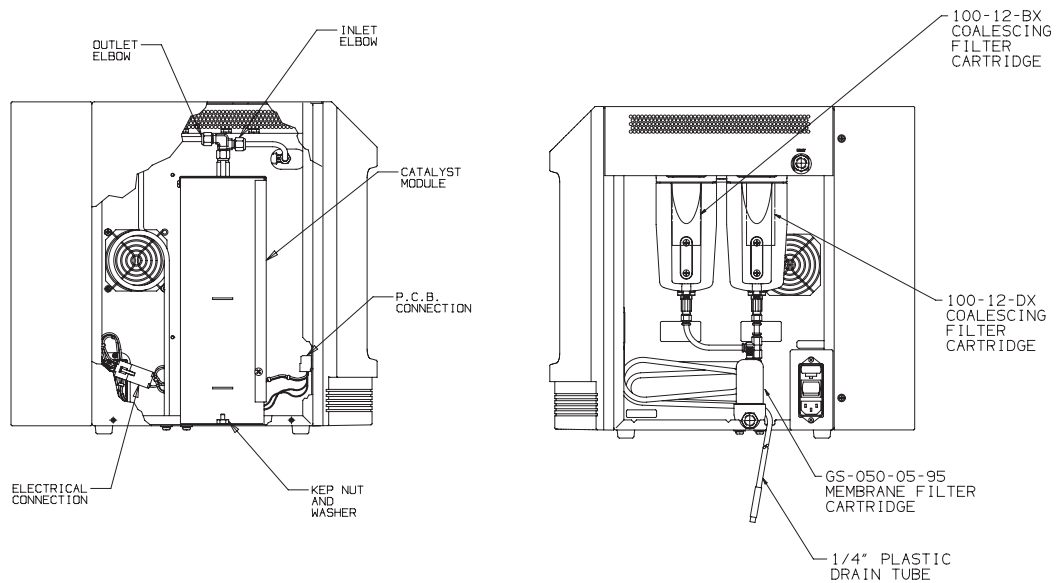

Figure 6 - Maintenance Items
The primary maintenance tasks required by the Parker Balston TOC Gas Generator are changing the prefilter cartridges (annually), replacing the final membrane filter cartridge (annually), and replacing the catalyst module (3 years or when the “Check System” LED starts blinking). A summary of the replacement part numbers and recommended service frequency is shown at the end of this Maintenance section. See Figure 6 for the locations of the various maintenance items.
The Grade DX and Grade BX prefilters integral to the Parker Balston TOC Gas Generator are easily accessible on the right side, behind the removable filtration access panel (see Figure 6). The filter cartridges inside the prefilter housings should be changed on an annual basis to maintain efficient operation of the system. The filter cartridges housed in the prefilters are removed by unscrewing the bowl from the head of the filter assembly, lowering the bowl of the assembly, and removing the element retainer disc at the base of the cartridge. Insert the new filter cartridges (100-12-DX and 100-12-BX), and re-assemble in reverse order. (Note: The filter housings are labeled for Grade DXE and Grade BX filter cartridges. Please be sure to install replacement cartridges in the correct housing.)
The tools required to change the catalyst module are: a Phillips head screwdriver and two 7/16" or adjustable wrenches. The procedure for replacing the catalyst module is as follows (see Figure 6 for component locations):
- 3 Using two wrenches (one as an anchor), disconnect the module inlet and outlet fittings at the elbow. Leave both elbows on the module (see Figure 6).
- 5 Remove the spent module from the TOC Gas Generator and disconnect the electrical connector and the PCB connector (see Figure 6).